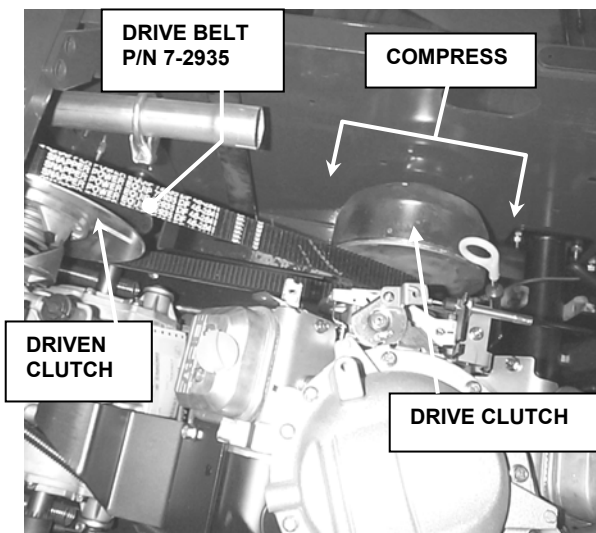

FIGURE 4.1
4. Roll belt off of driven clutch. See Figure 4.1.